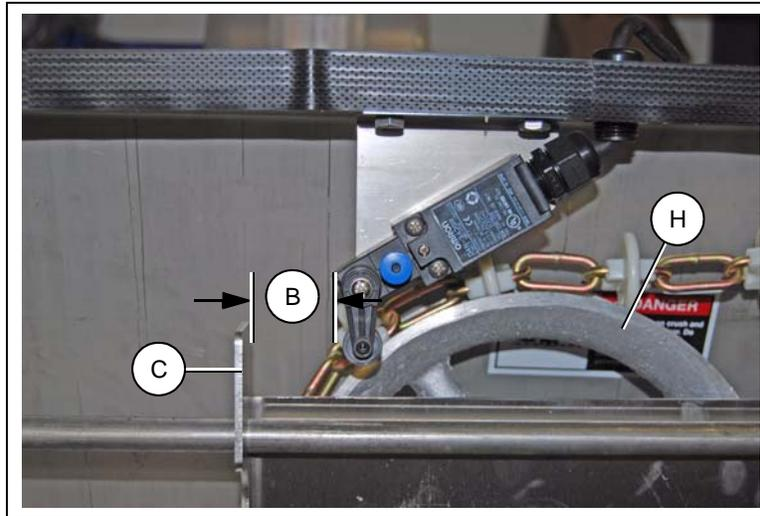
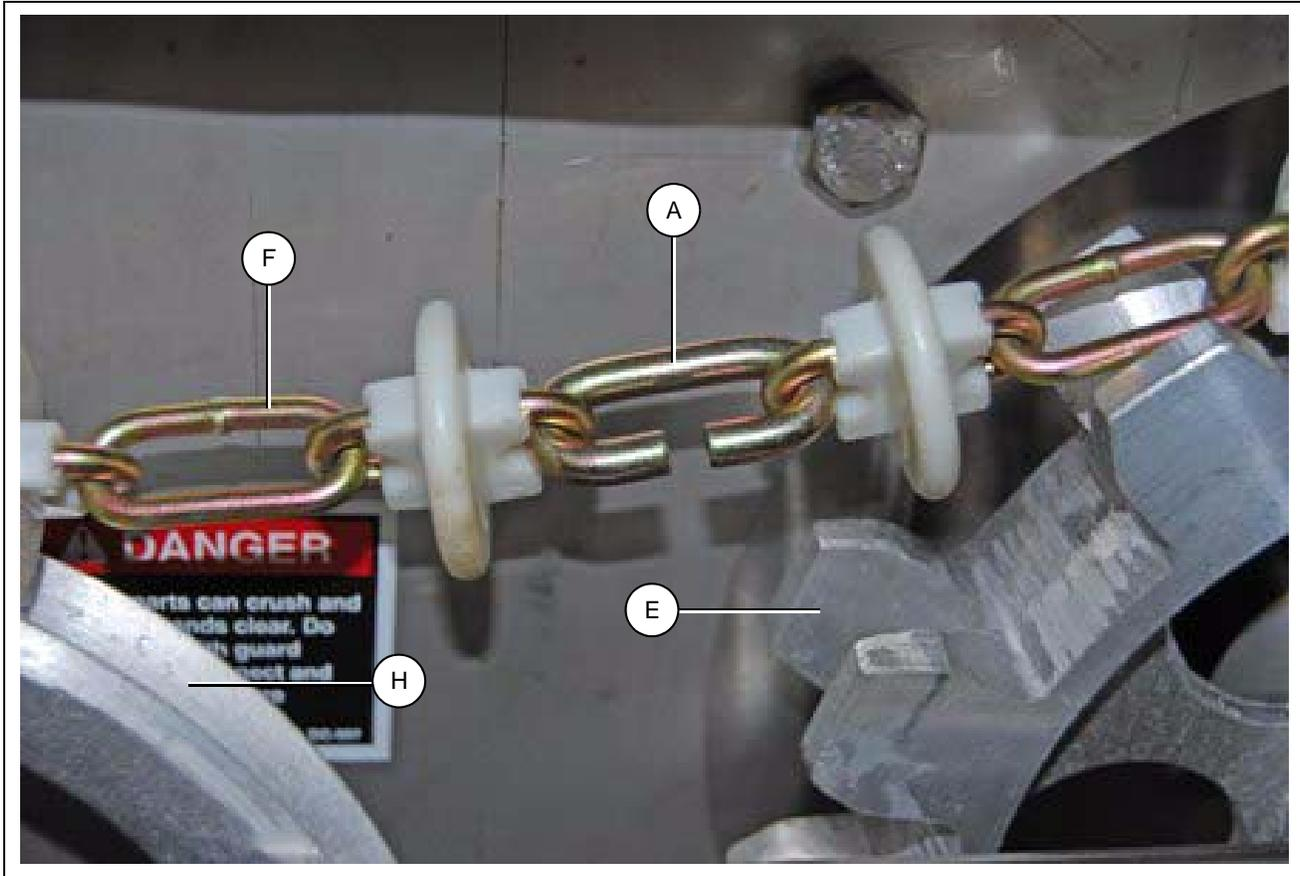

Figure 13H
Figure 13J
1. Unhook both springs inside the drive unit. (See Figure 13H-Figure 13J below and Page 40.)
3. Wrap one end of the chain and disks around the idler wheel and the other around the drive sprocket as shown in Figure 13H-Figure 13J below and Page 40. The fan end of the motor has a shaft extension with flat sides which can be turned with a 1/2" wrench to thread the chain and disks around the drive sprocket. Remove the plastic protector cap to expose the motor shaft extension.
4. Cut the two (2) ends of the chain and disks so that the connection can be made in a convenient location.
5. Connect the ends using a connector link. (See Figure 13H-Figure 13J below and Page 40.)
6. Repeat Steps 1-4 above until the limit switch stays approximately 2" from the left limit switch tab as shown in Figure 13H-Figure 13J on Pages 39 and 40. Increase the time that the system runs each time these steps are repeated until the system has run for at least 10 minutes.